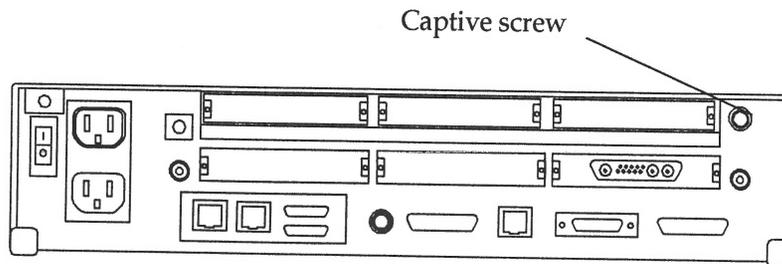

Figure 3-1 Location of Captive Screw (Back Panel)
2. **Use a Phillips screwdriver to fully loosen the captive screw holding the cover to the back panel. Refer to Figure 3-1 for the location of the captive screw.**